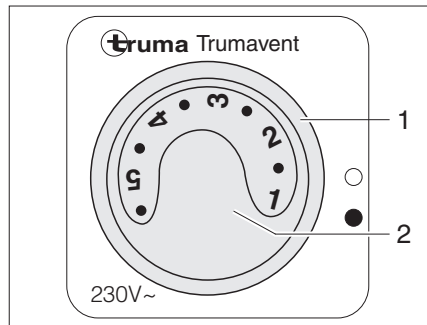

Fig. 109 Operating switch for circulation fan (240 V)
- Turn the rotary switch (Fig. 109,1) to "●".
- Turn the knob (Fig. 109,2) to the required position of the circulation fan.
- Turn the rotary switch (Fig. 109,1) to "○".